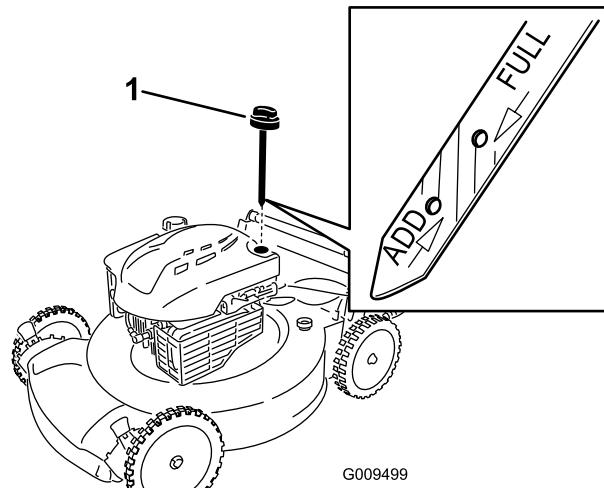

Figure 8
1. Remove the dipstick, wipe it clean, and fully install the dipstick (Figure 8).
2. Remove the dipstick and check the oil level (Figure 8). If the oil level is below the **Add** mark on the dipstick, slowly pour oil into the oil fill tube to raise the oil level to the **Full** mark on the dipstick. Wait 3 minutes after adding oil to check the oil with the dipstick. **Do not overfill.** (Max. fill: 20 oz. (0.59 l), type: SAE 30 detergent oil with an API service classification of SF, SG, SH, SJ, SL, or higher.)